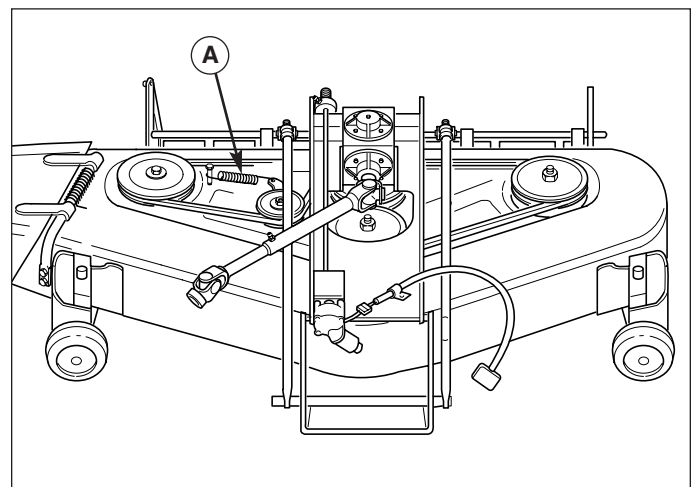

**Figure 51. Mower Deck - 54" Mowers**
2. Remove the taptight screws (A, Figure 51) securing the belt covers and remove the belt covers (B, D).
8. Complete installation by following steps 3-1 in reverse order. When reinstalling the belt covers, be sure the alignment notches (E, Figure 51) are centered on the taptight screws (A).